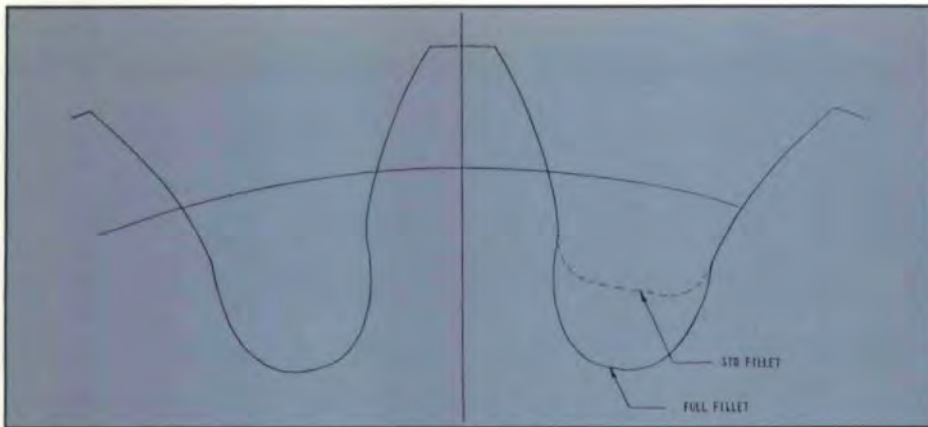

Fig. 8—Standard fillet vs full fillet.
- Standardize fillets for all new designs and use them wherever possible. Fig. 8 shows a comparison of standard fillets and full fillets.